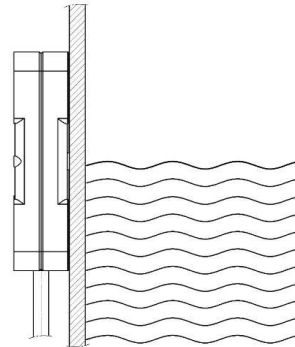

Fig. 5-1: Full calibration for level detection
1. Bring level to approx. 50% coverage of the sensing surface (see Fig. 5-1).